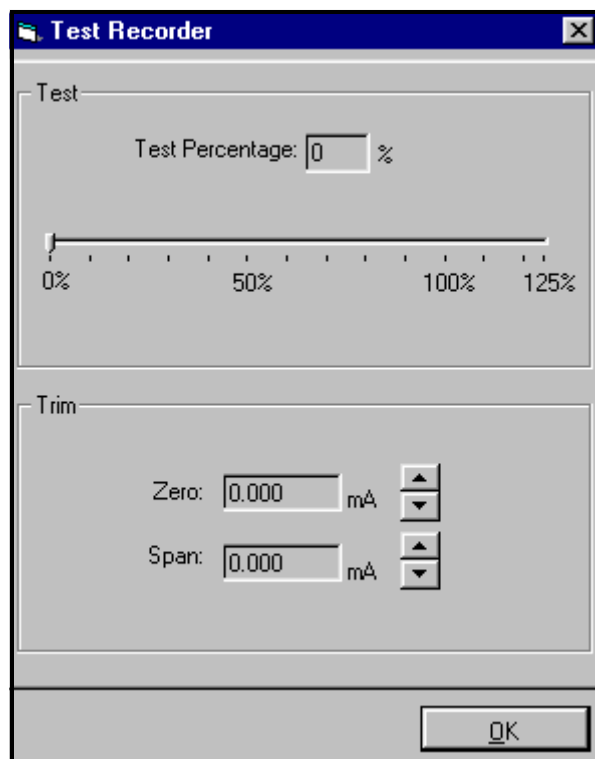

Figure 4-5: Recorder Test Window
2. The “*Test Recorder*” window appears, as shown in Figure 4-5 below. At the top, slide the pointer to the desired percentage of the full scale recorder range, and click on [OK].